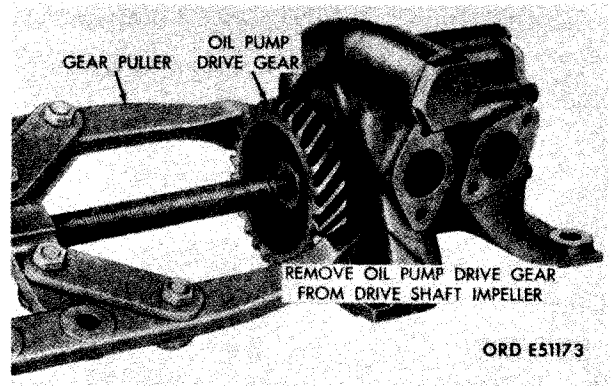

FIGURE 360. REMOVING OIL PUMP DRIVE GEAR USING A GEAR PULLER.
- (2) Refer to figure 360 and remove oil pump drive gear.